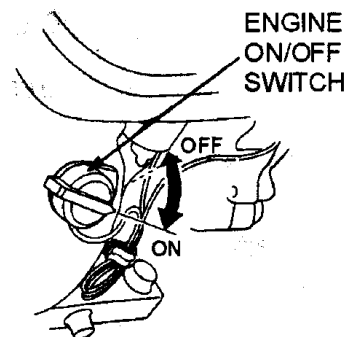

Figure 12. Engine ON/OFF Switch
5. Place the ***engine ON/OFF switch*** (Figure 12) in the "ON" position.